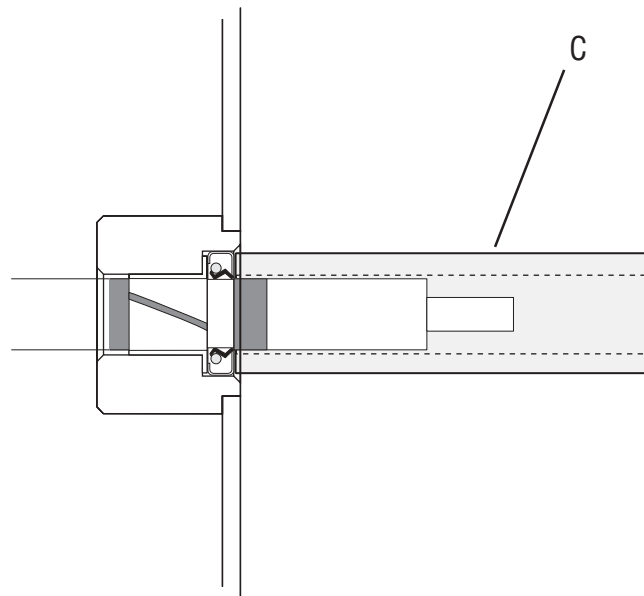

Fig. 4
**Note:** Properly installed cooling drum seal will be recessed in bore of cooling drum (Fig. 4).